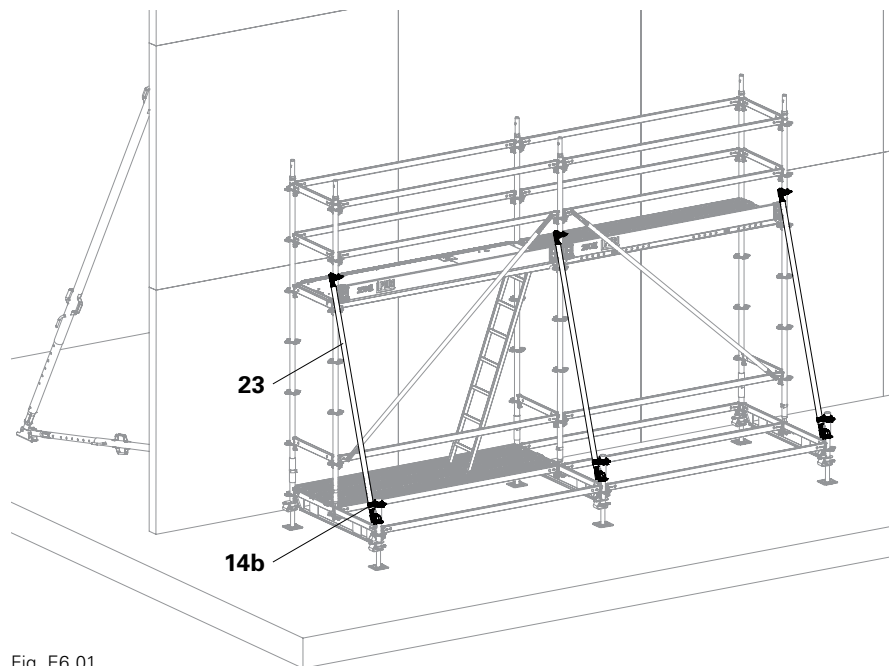

Fig. E6.01
Mount Coupler Brace UBC (23) at the top to the outside Standard. Mount at bottom with Swivel Coupling 48/60 (14b) to the Base Standard UVB 24. (Fig. E6.01)